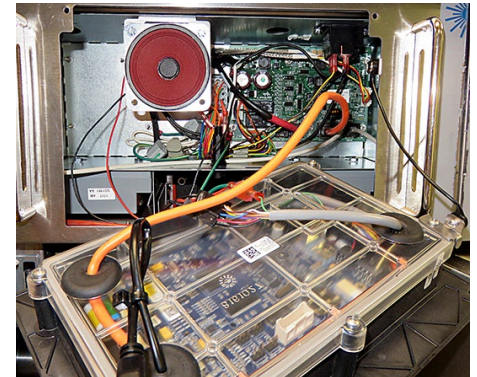

Figure 13
16. Lower the controller and rest it on the bottom of the control box (see Figure 13). The black tether on the right will support the controller.